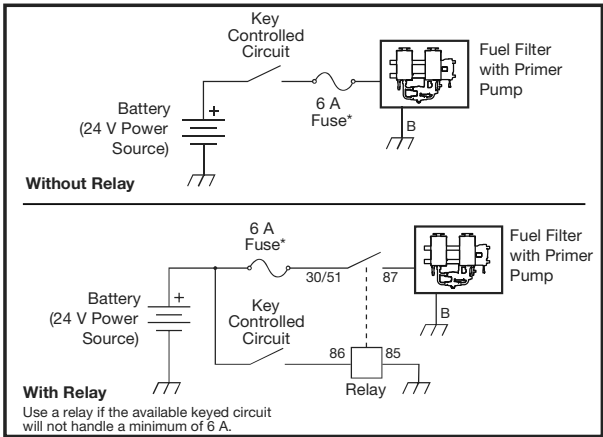

Figure 9 - Power Connection Schematics
9. Locate an electrical power source from the engine capable of providing 24 V, 6 A power to the Primer Pump. See Figures 9 and 10.